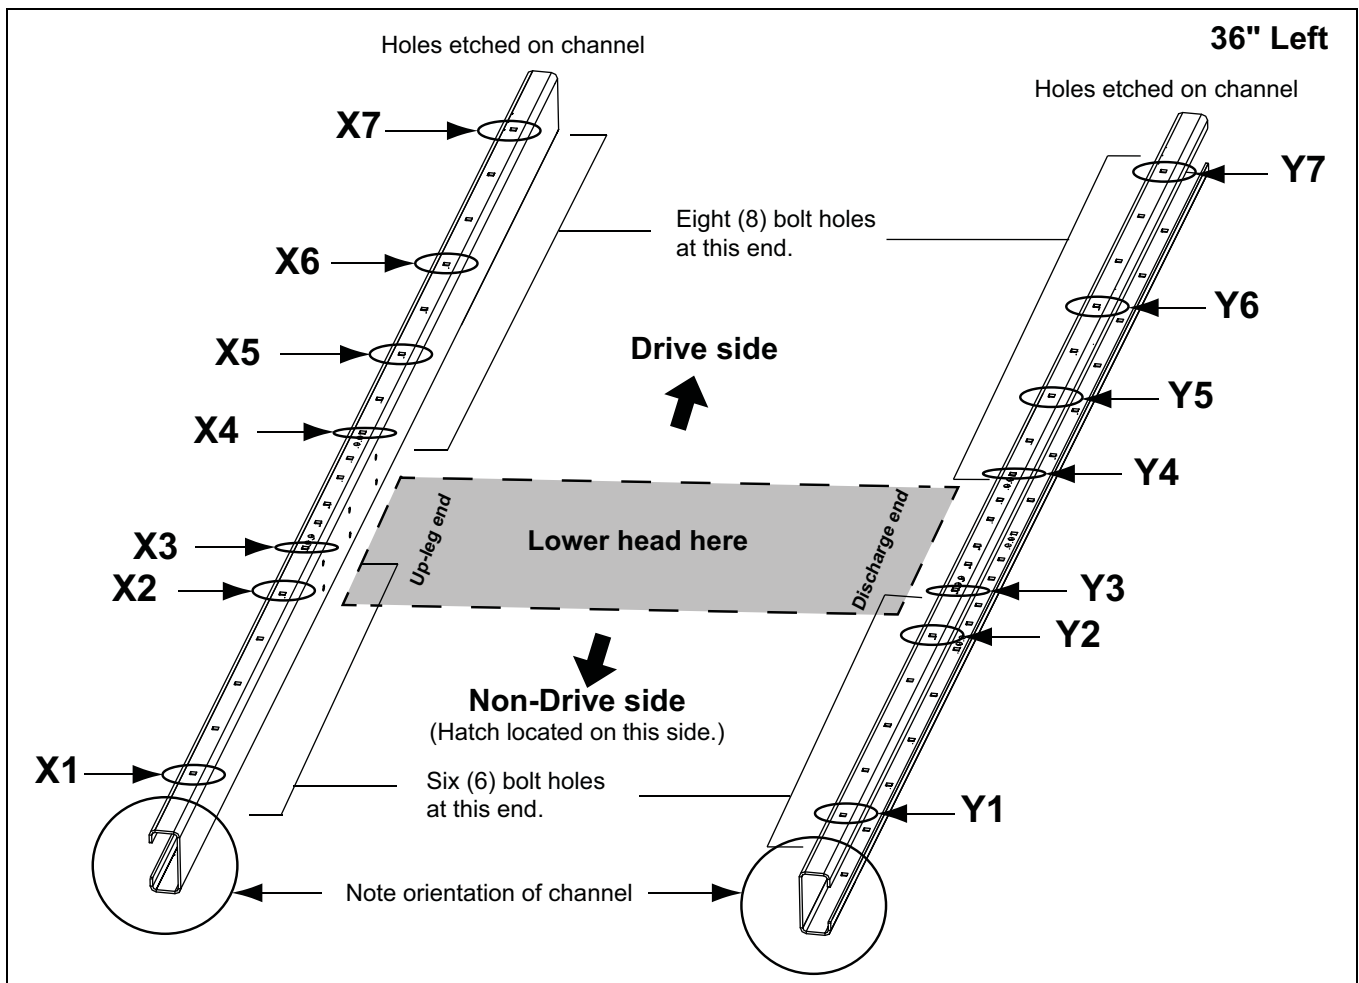
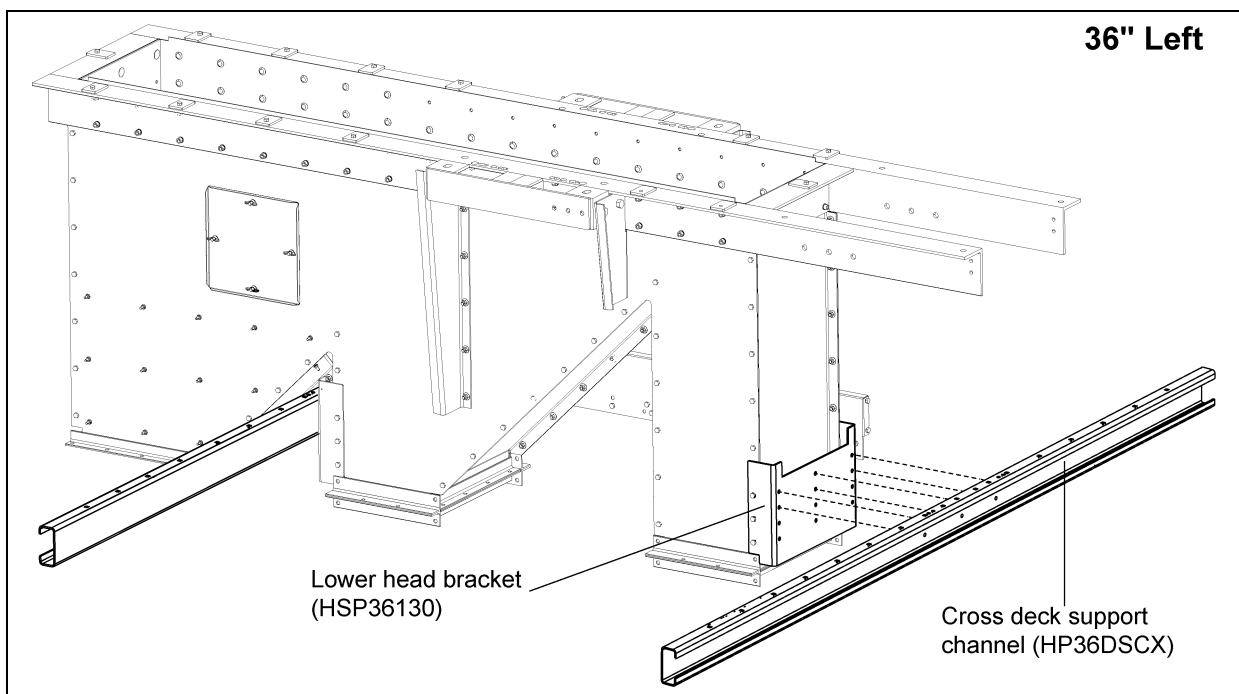

Figure 9D 36" Left Side Drive Channel Position
Figure 9E
(See Figure 9D on Page 65.)
3. Attach cross deck support channels (HP36DSCX) to the top most set of holes of the lower head brackets (HSP36130) using 3/8" x 1" bolts and nuts. *(See Figure 9E on Page 65.)*
- *NOTE:** *The channels MUST be oriented as shown in Figure 9D and Figure 9E on Page 65 in order for the decking and subsequent assembly to be done correctly.*